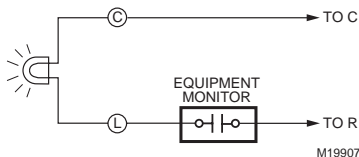

Fig. 21. L terminal switch to R (power) side of system transformer.
- When the L terminal is wired to an equipment monitor, the LED signals when a check or fail signal is sent to the thermostat from the system. See Fig. 21. (This can occur only when the thermostat is not in Em. Ht. mode.)